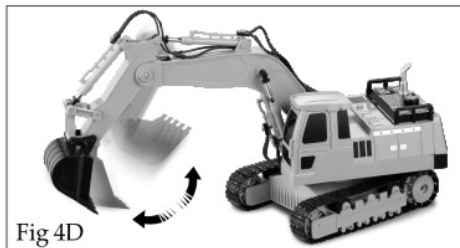

Fig 4D
4. Excavating: press the key of "Excavating" after starting the car, the car will do a motion of excavating with sound (Fig 4D).
5. Unloading: press the key of "Unloading" after starting the car, excavator will do a motion of unloading with sound (Fig 4D).